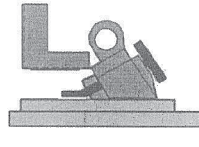

Figure 3
3. Rotate thumbwheel clockwise to secure the lockout device to the circuit breaker switch tongue (figure 3).